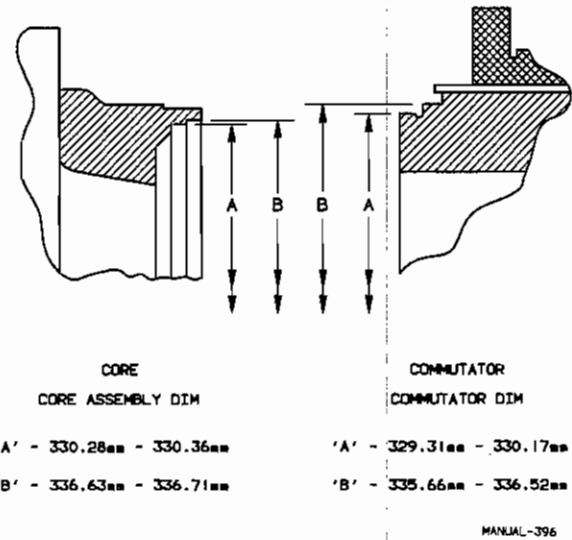

Fig. 18 - Commutator-to-Core Fits
1. Clean up commutator-to-core mating surfaces. Check the corresponding mating fits as shown in Fig. 18.